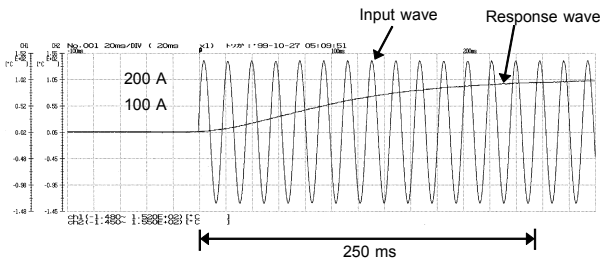

Fig. 1 Waveform of Measurement Response (Rise)
- During a f.s. input, the measurement response speed is about 250 ms during rise (0% to 90%) and about 500 ms (100% to 10%) during fall (See: Figs. 1 and 2).
- During a f.s. input, the measurement response speed is about 250 ms during rise (0% to 90%) and about 500 ms (100% to 10%) during fall (See 2.2.2 Measuring AC Current (AC A), Figs. 1 and 2).
- During a f.s. input, the measurement response speed is about 250 ms during rise (0% to 90%) and about 500 ms (100% to 10%) during fall (See 2.2.2: Measuring AC Current (AC A), Figs. 1 and 2).